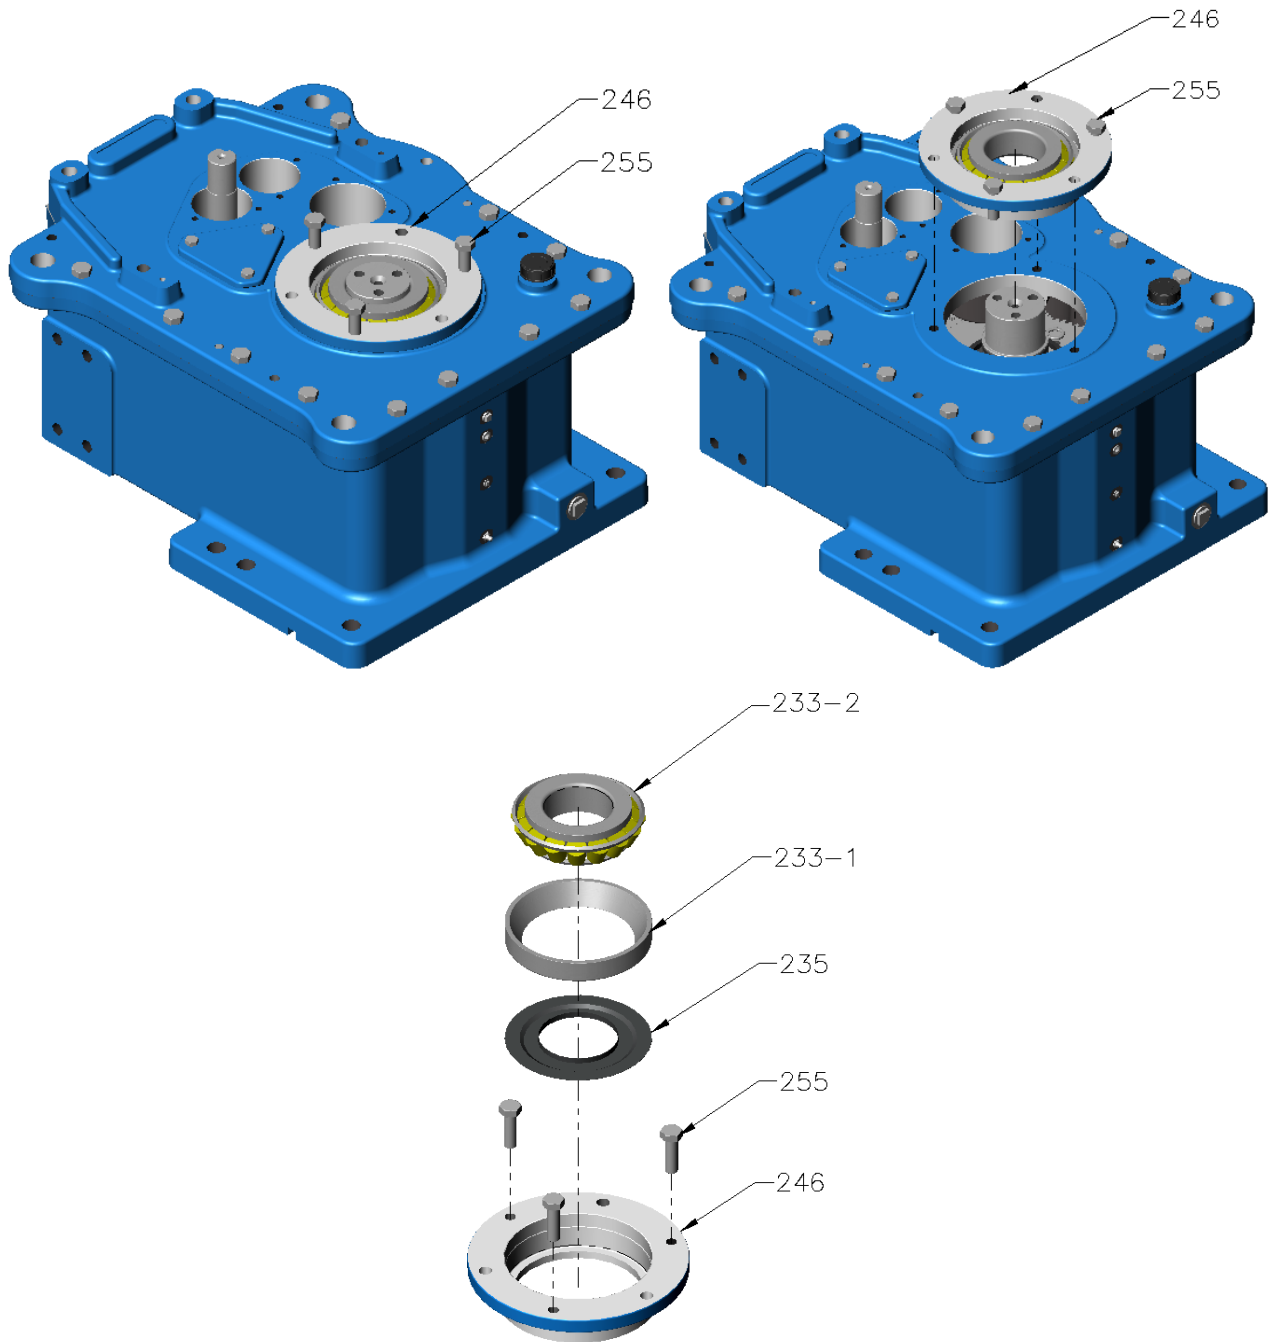

Figure 6 – Output bearing
F. At output shaft (Refer Figure 6):